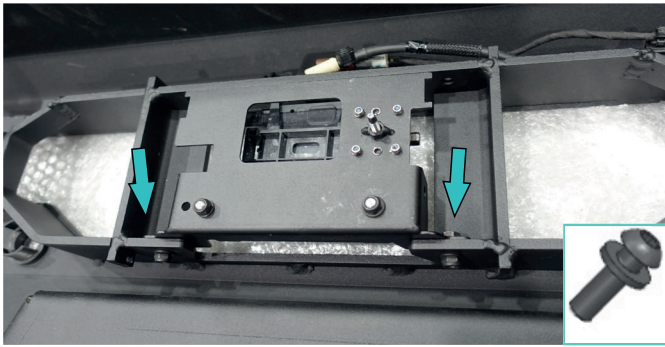

Fig.56
53. Install the radar bracket (complete with factory radar) (item 2) on the bumper body (item 3) using bolts M6x16 with washers 6 (item E, R) (fig.56).